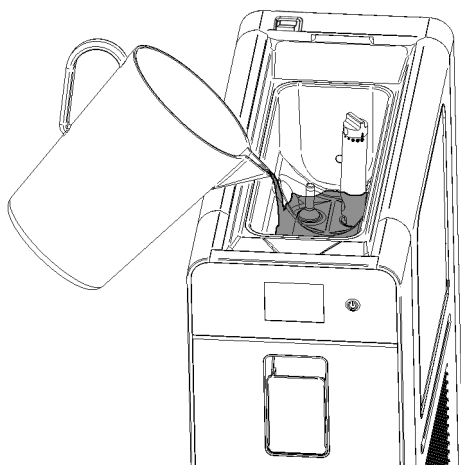

figure 5
**2** Pour the mixture into the upper tank and wait for the cylinder to fill up. This will occur when no more air bubbles exit the holes in the mixing pipe. (see figure 5)